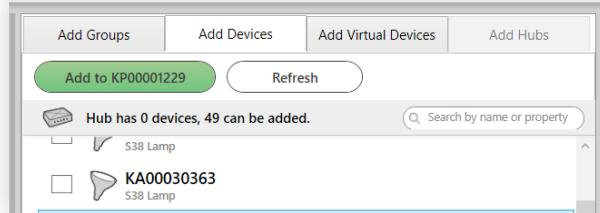

fig. 28
- 3 **Click the green Add button. (See fig. 28)**